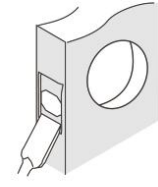

Figure 3d
- Chisel 5/32" (4mm) deep or until the deadbolt face is flush with the door edge (Figure 3d).